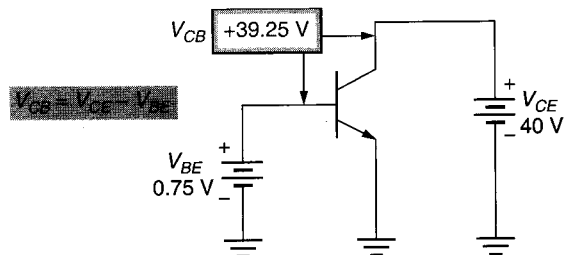

FIGURE 6.19 Collector-base junction biasing.
**OBJECTIVE 8** ► Most transistor spec sheets list a maximum value of *collector-base voltage* ( $V_{CB}$ ). This rating indicates the maximum amount of reverse bias that can be applied to the collector-base junction without damaging the transistor. This rating is important because the collector-base junction is reverse biased for active region operation, as shown in Figure 6.19. In this circuit,  $V_{CE}$  is 40 V and  $V_{BE}$  is 0.75 V. The value of  $V_{CB}$  is equal to the difference between the other two voltages: 39.25 V. If this voltage exceeds the  $V_{CB}$  rating of the transistor, the component will probably be destroyed.